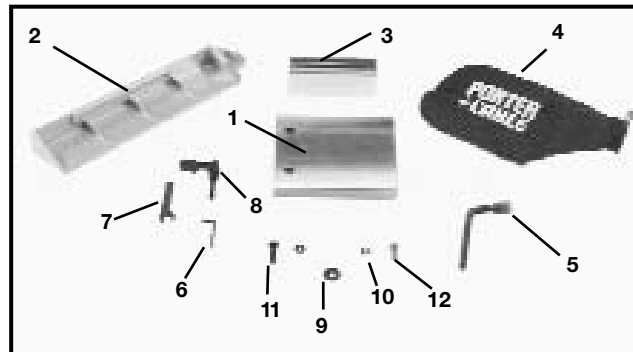

Fig. 3
5. Unassembled items are shown in Fig. 3 for identification and use in assembling the saw.